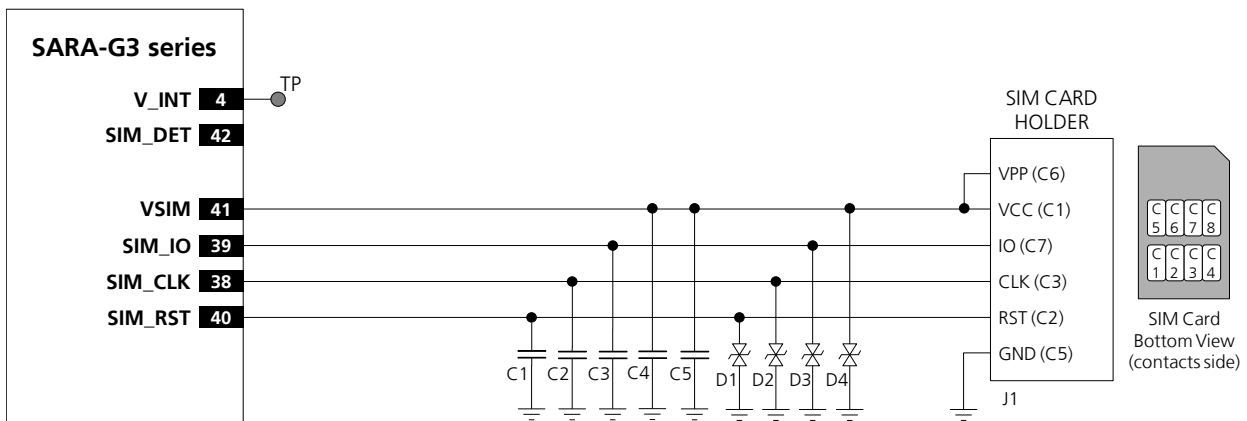
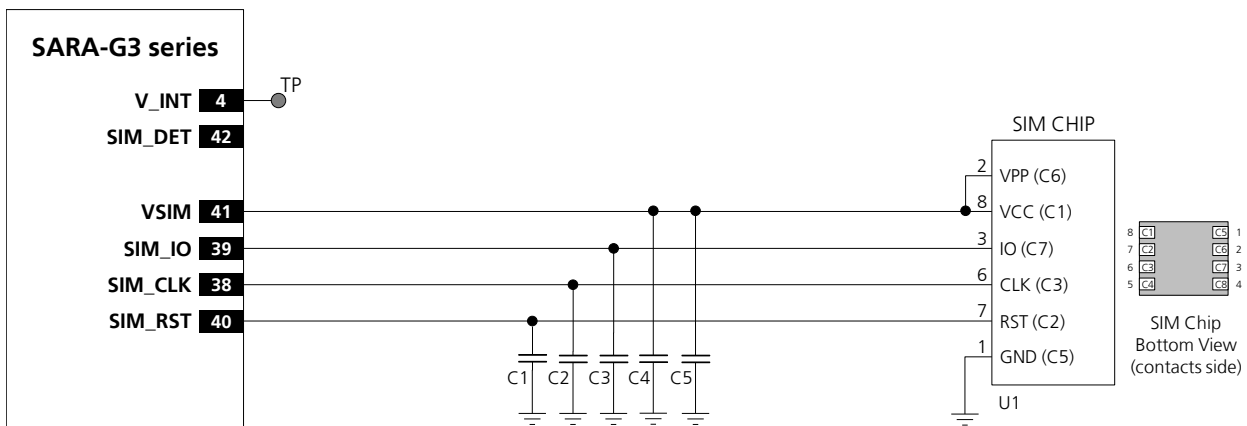
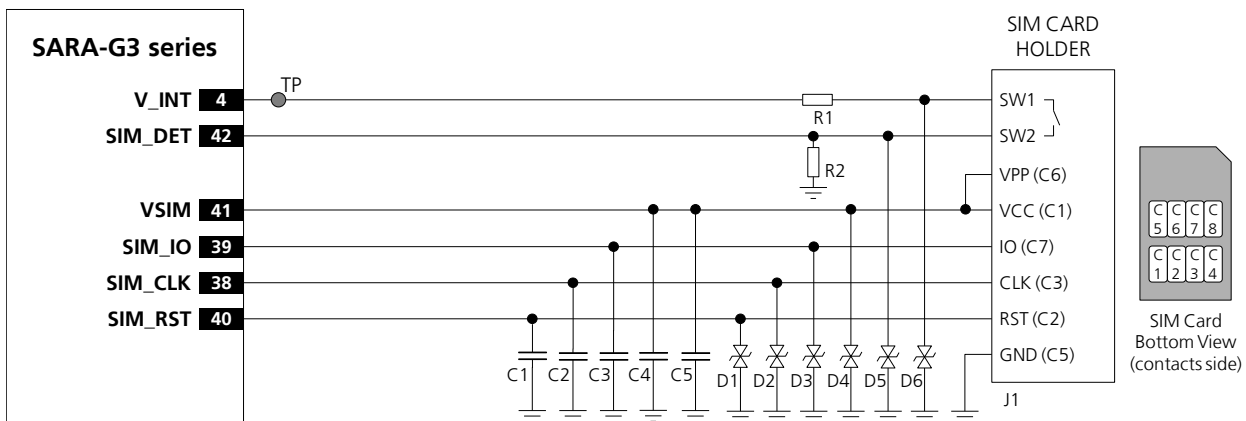
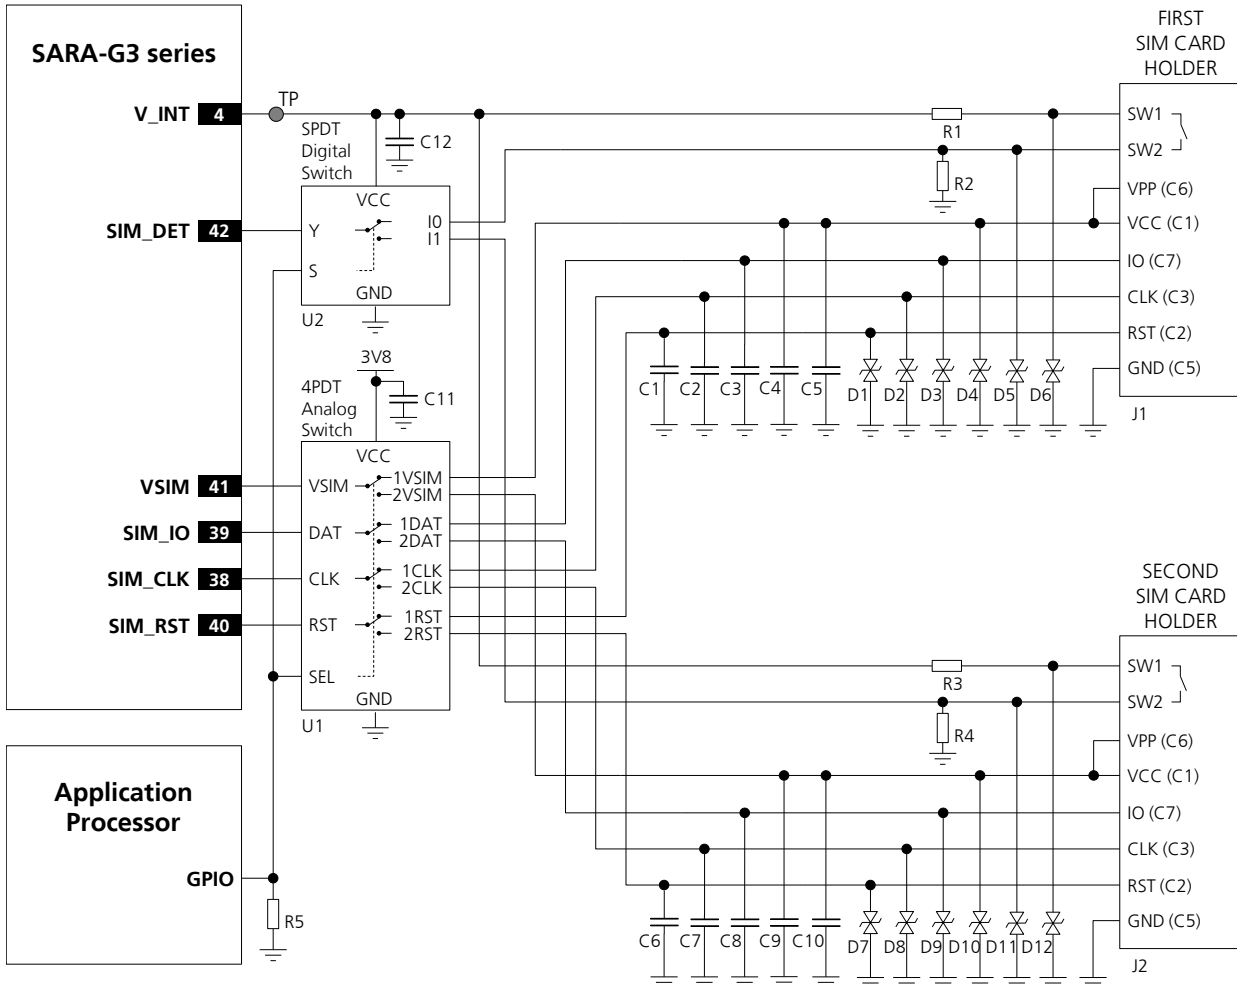

Figure 40: Application circuit for the connection to a single removable SIM card, with SIM detection not implemented
Figure 41: Application circuit for the connection to a single solderable SIM chip, with SIM detection not implemented
Figure 42: Application circuit for the connection to a single removable SIM card, with SIM detection implemented
Figure 43: Application circuit for the connection to two removable SIM cards, with SIM detection implemented
A removable SIM card placed in a SIM card holder must be connected the SIM card interface of SARA-G3 modules as described in Figure 40, where the optional SIM detection feature is not implemented (refer to the circuit described in Figure 42 if the SIM detection feature is not required).
A solderable SIM chip (M2M UICC Form Factor) must be connected the SIM card interface of SARA-G3 modules as described in Figure 41, where the optional SIM detection feature is not implemented (refer to the circuit described in Figure 42 if the SIM detection feature is not required).
A removable SIM card placed in a SIM card holder must be connected to the SIM card interface of SARA-G3 modules as described in Figure 42, where the optional SIM card detection feature is implemented.
- Connect one pin of the mechanical switch integrated in the SIM connector (e.g. the SW2 pin as described in Figure 42) to the **SIM\_DET** input pin of the module
- Connect the other pin of the mechanical switch integrated in the SIM connector (e.g. the SW1 pin as described in Figure 42) to the **V\_INT** 1.8 V supply output of the module by means of a strong (e.g. 1 k $\Omega$ ) pull-up resistor, as the R1 resistor in Figure 42
- Provide a weak (e.g. 470 k $\Omega$ ) pull-down resistor at the SIM detection line, as the R2 resistor in Figure 42
Two removable SIM card placed in two different SIM card holders must be connected to the SIM card interface of SARA-G3 modules as described in Figure 43, providing also the SIM card detection feature.
SARA-G3 modules do not support the usage of two SIM at the same time, but two SIM can be populated on the application board providing a proper switch to connect only the first or only the second SIM per time to the SIM card interface of the SARA-G3 modules as described in Figure 43.
In the application circuit represented in Figure 43, the application processor must drive the SIM switch using its own GPIO before the module boot, to properly select the SIM that is used after the module boot.
If the SIM detection feature is not required by the custom application, the relative detection circuit described in Figure 43 can be not implemented in the dual SIM connection circuit, leaving **SIM\_DET** pin not connected.
The dual SIM connection circuit described in Figure 43 can be implemented for SIM chips as well, providing proper connection between SIM switch and SIM chip as described in Figure 41.
If it is required to switch between more than two SIM, a circuit similar to the one described in Figure 43 can be implemented: for example, in case of four SIM circuit, using proper four-throw switches instead of the suggested double-throw switches.
- Connect one pin of the mechanical switch integrated in the two SIM connectors (e.g. the SW2 pins as described in Figure 43) to the **SIM\_DET** input pin of the module by means of a proper double-throw digital switch (e.g. NXP 74LVC1G157)
- Connect the other pin of the mechanical switch integrated in the two SIM connectors (e.g. the SW1 pins as described in Figure 43) to the **V\_INT** 1.8 V supply output of the module by means of a strong (e.g. 1 k $\Omega$ ) pull-up resistor, as the R1 and R3 resistors in Figure 43
- Provide a weak (e.g. 470 k $\Omega$ ) pull-down resistor at the SIM detection line, between the double-throw digital switch and the relative SIM connector as the R2 and R4 resistors in Figure 43
In the second case, the same harmonics can be picked up and create self-interference that can reduce the sensitivity of GSM receiver channels whose carrier frequency is coincidental with harmonic frequencies: placing the RF bypass capacitors suggested in Figure 42 near the SIM connector will mitigate the problem.
In addition, since the SIM card is typically accessed by the end user, it can be subjected to ESD discharges: add adequate ESD protection as suggested in Figure 42 to protect module SIM pins near the SIM connector.